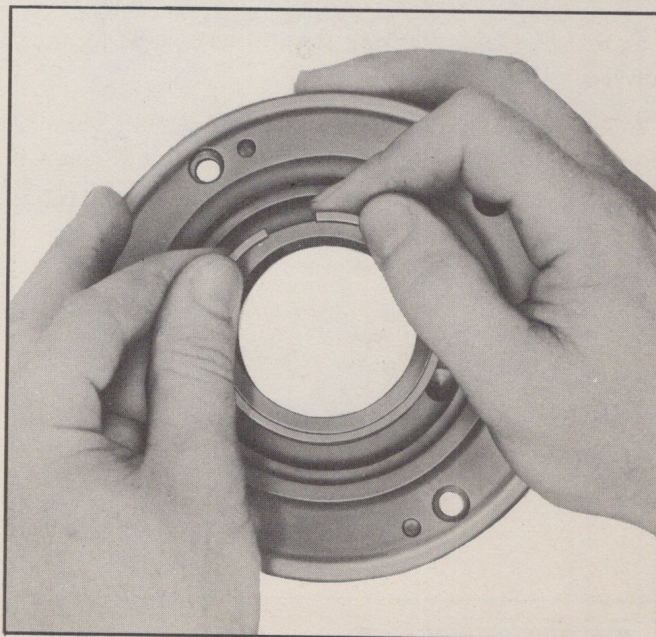

Fig. 274—Installing Front Cover Oil Seal Rings
1. If necessary, install new oil seal rings in pump cover (Fig. 274).